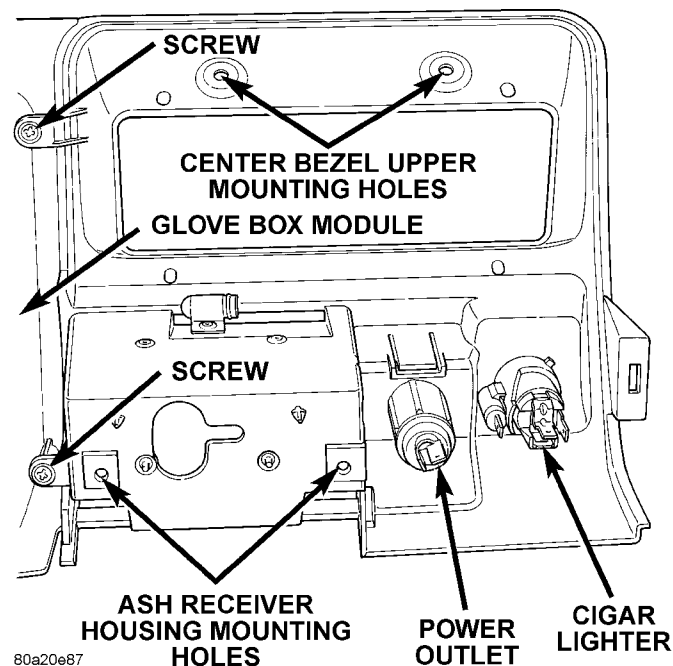

Fig. 16 Instrument Panel Center Bezel Remove/Install
(1) Remove the glove box module from the instrument panel. See Glove Box Module in this group for the procedures.
(2) Remove the two screws located on the back side of the glove box module that secure the instrument panel center bezel to the inboard end of the glove box module (Fig. 16).